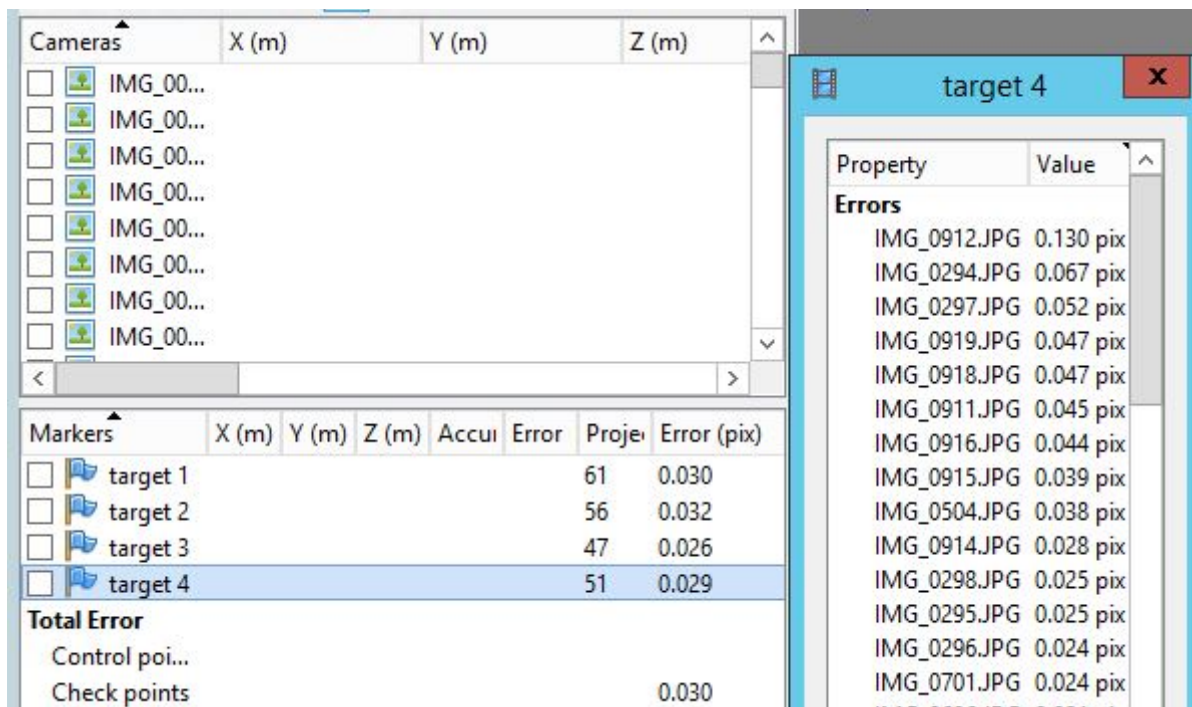

Figure 20. Agisoft Metashape screenshot highlighting low error of targets marked.
- b. Look at the Error (pix) column in the Markers pane on the far right. Each GCP marker error should be below 0.4 (Figure 20).